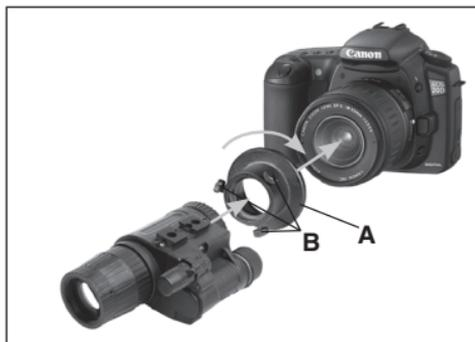
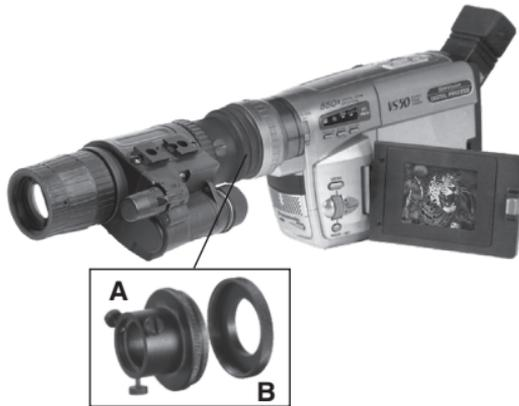

Figure 3.6
Figure 3.7
1. Screw Camera Adapter into the front lens of a photographic camera with thread M52x0.75 (Figure 3.6) or a video camera with thread M37x0.75 (use adapter ring, Figure 3.7, B) .
3. Connect the adapter (Figure 3.6, A) with the eyepiece and gently tighten three fixing screws (Figure 3.6, B) on the adapter.